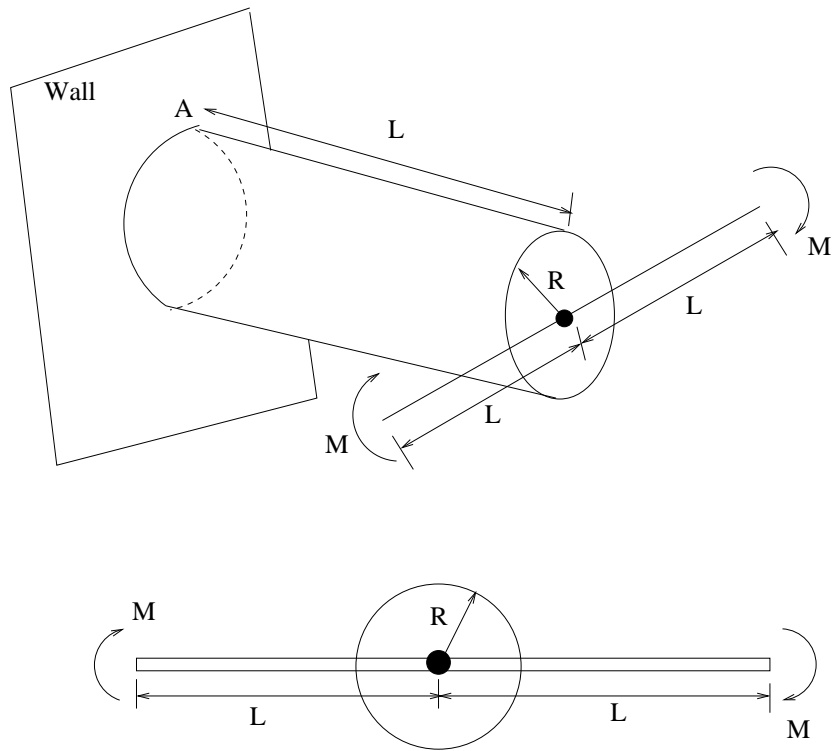

Figure 4: Problem 4.
4. A circular bar of radius R is fixed to a wall at one end, and has a beam of length $2L$ welded to it at its center at other end as shown by the dark circle in Figure 4. A moment M is applied at each of the ends of this beam as shown. Assuming that the welded joint acts as a ‘cantilever’ type support at the center, find the deflection and the slope at the ends where the moment M is applied. You may directly use the formulae below. Next consider an element at the top of the circular cross section at the wall (i.e., at point A in the figure). The sides of this element are parallel and perpendicular to the axis of the cylinder. Show the stress state on this element, and then using a Mohr circle diagram, find the maximum and minimum principal stresses at this point. (25)